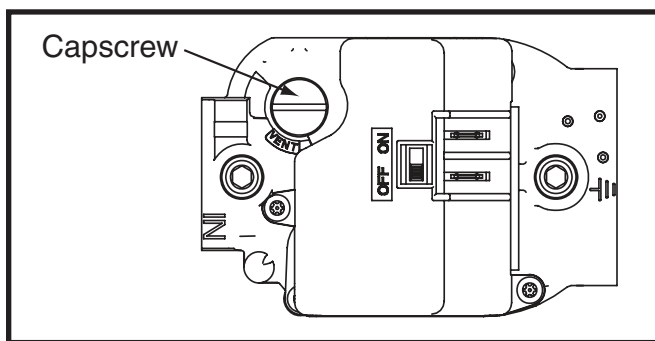

Figure 15. Regulator Capscrew
7. Remove the regulator capscrew from the INLET side of the regulator. See (Figure 15).